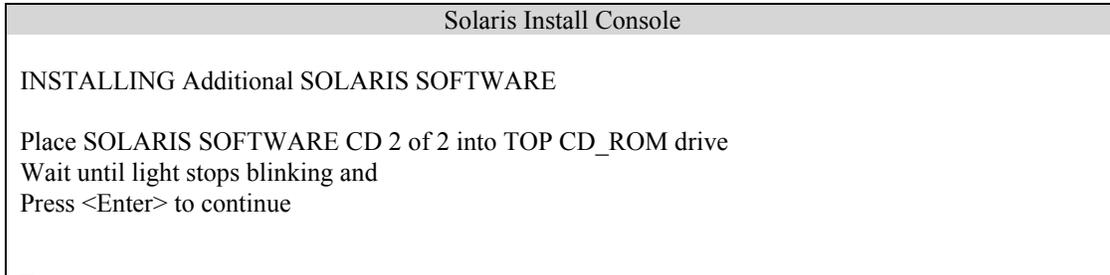

Figure 3-29 Solaris Install Console (Additional Solaris Software).
30. You will be prompted to insert Solaris Software CD disk 2 of 2 in the top CD-ROM drive (Figure 3-29).